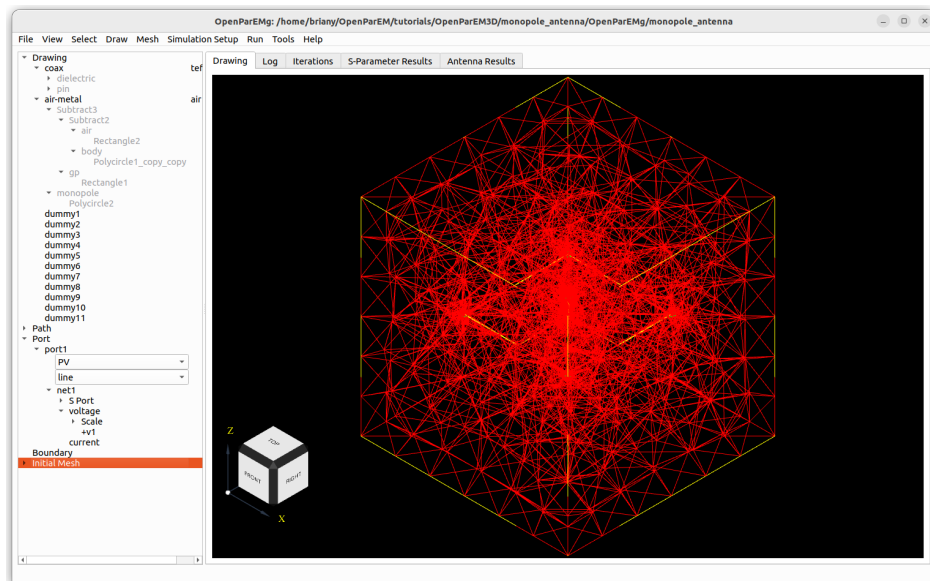

Figure 20: Mesh for the monopole dipole
- Generate the mesh, which should look like the mesh in Fig. 20.